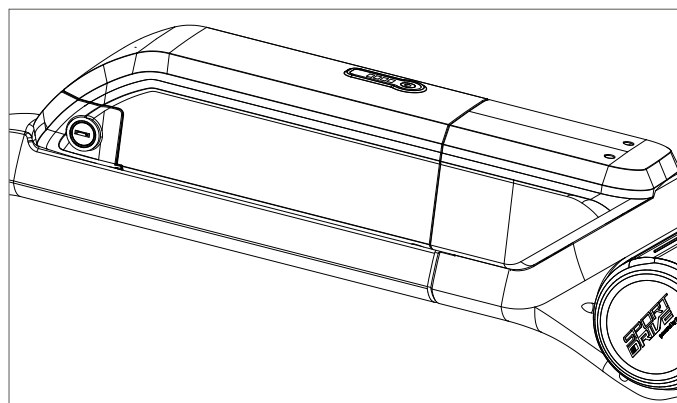

Figure 4.25 Lock assembly - complete
6. Check if the battery is securely assembled (Fig. 4.25).